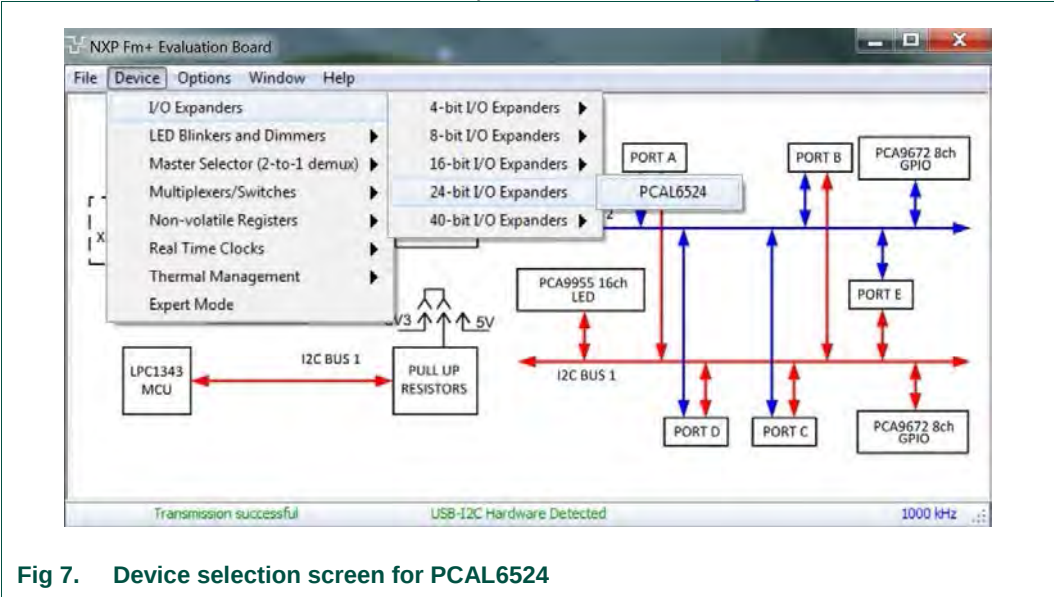

Fig 7. Device selection screen for PCAL6524
- 1. Select 24-bit PCAL6524 from I/O Expanders as shown in Fig 7.